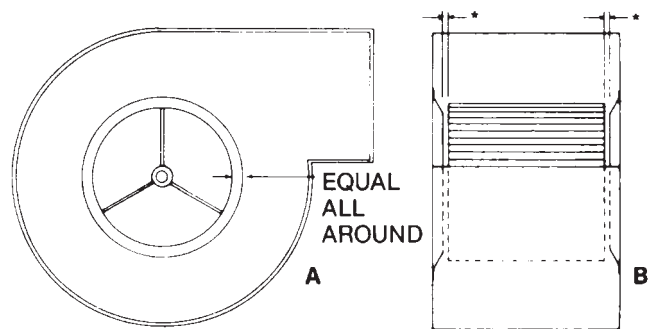

FIGURE 1 * EQUAL
- Check wheel position in scrolls. See Figure 1 a and b.